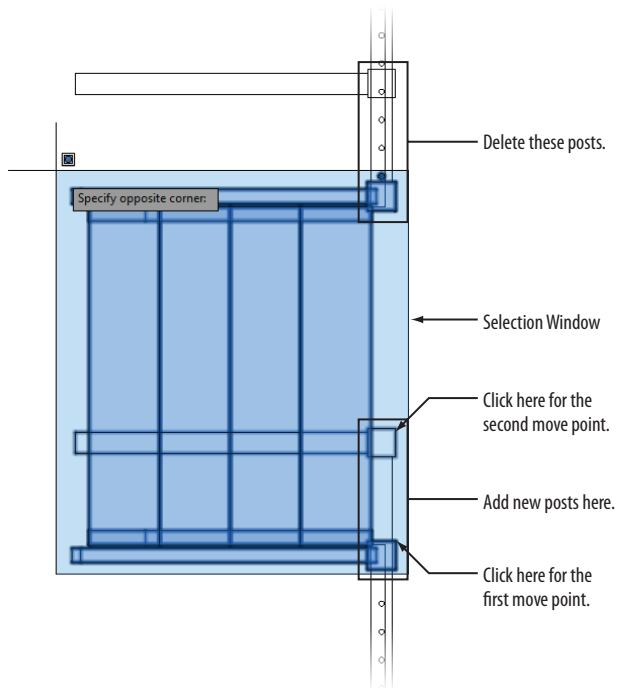

FIGURE 16.70: Moving the deck to make it narrower
16. Delete the 3/4" (20 mm) handrail posts in the vertical row on the north side of the 3D steps between the 4" (102 mm) 3D vertical post and the 4" (102 mm) 2D vertical post (see Figure 16.70).
18. Using the MOVE command, move the steps into place, as shown in Figure 16.70.